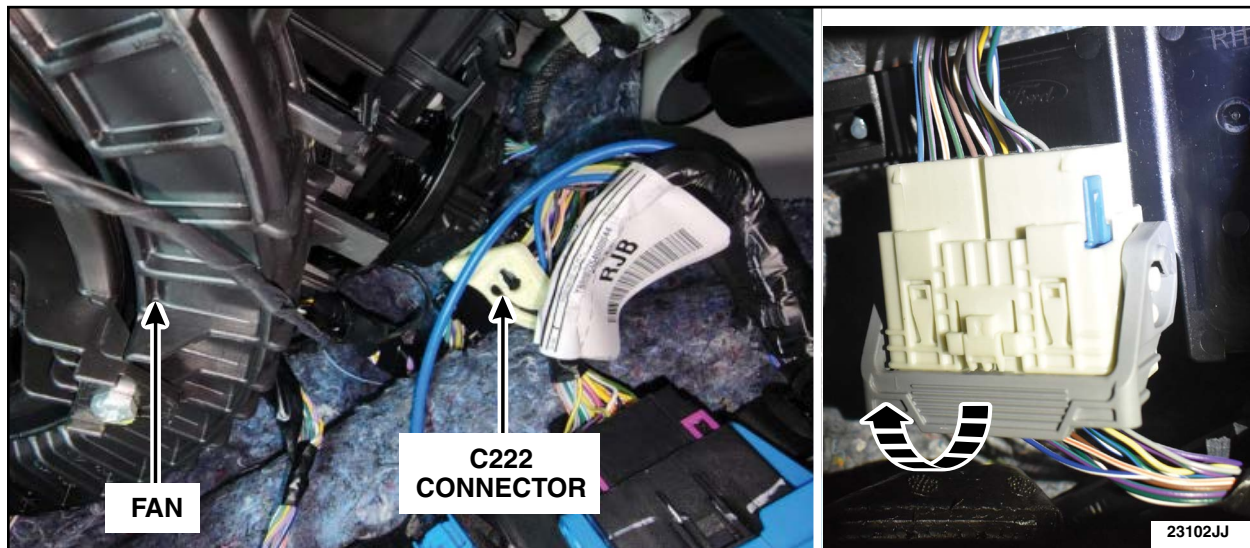

FIGURE 24
28. Reconnect connector C222. See Figure 24.